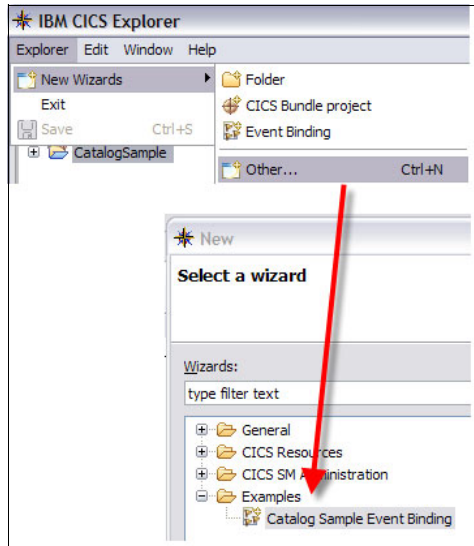

Figure 2-4 Catalog sample binding file
3. Generate the catalog sample event binding file. See Figure 2-4.